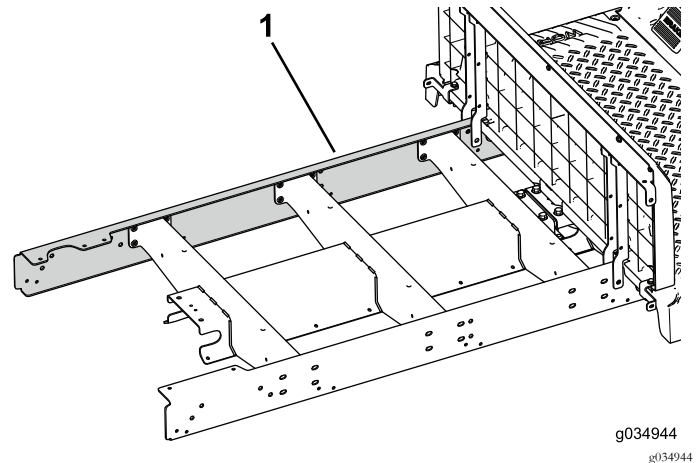

Figure 74
5. Loosely install the extension rail to the left side of the machine (Figure 74).